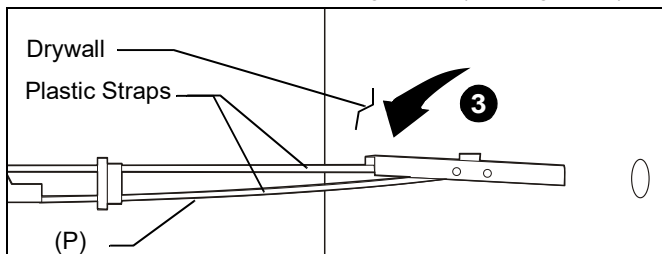

Figure 11
3. Hold metal channel on anchor (P) flat alongside plastic straps and slide channel through hole. (See Figure 11)